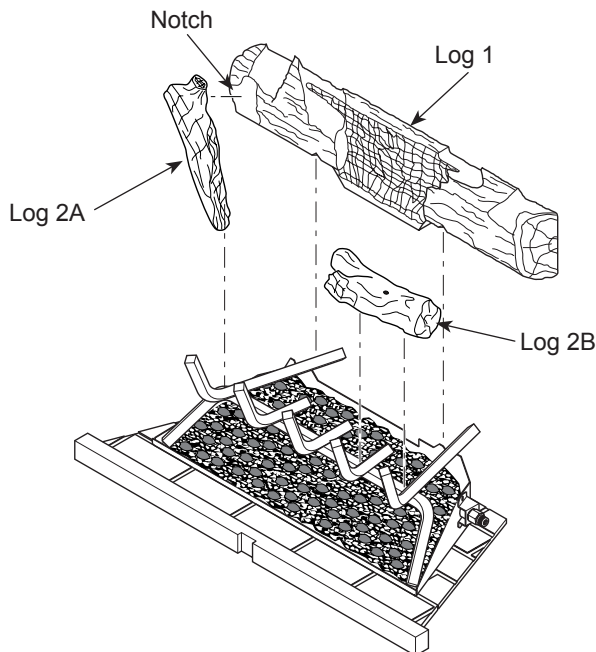

Figure 27 - Installing Logs 1, 2A and 2B
1. Place large back log (log 1) onto grate making sure notches rest over grate (see **Figure 27**).
2. Insert lower end of log 2A between first two grate fingers and position upper end into notch on front of log 1. See **Figure 27**. Place log 2B on front right side of grate as shown in **Figure 27**.